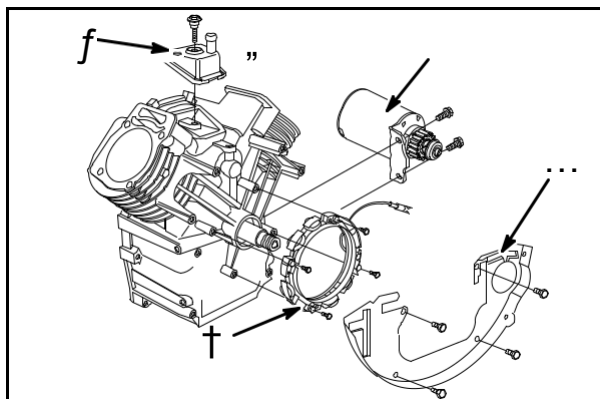

Fig. 20
Remove breather (3), alternator (6), backplate (5) and starter motor (4), **Fig. 20**.